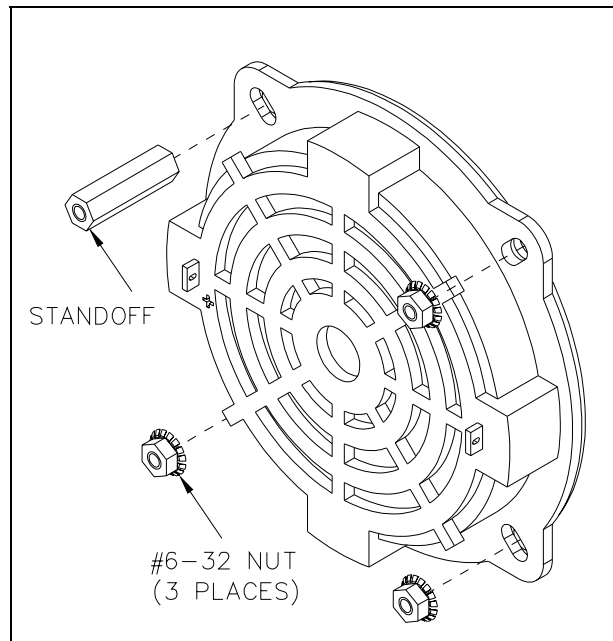

Figure 2. For Flush-Mount Telephones
- Use the ¼-inch nut driver to remove the standoff and three hex nuts securing the speaker assembly to the front panel assembly. Save them for reassembly. See Figure 2 below.